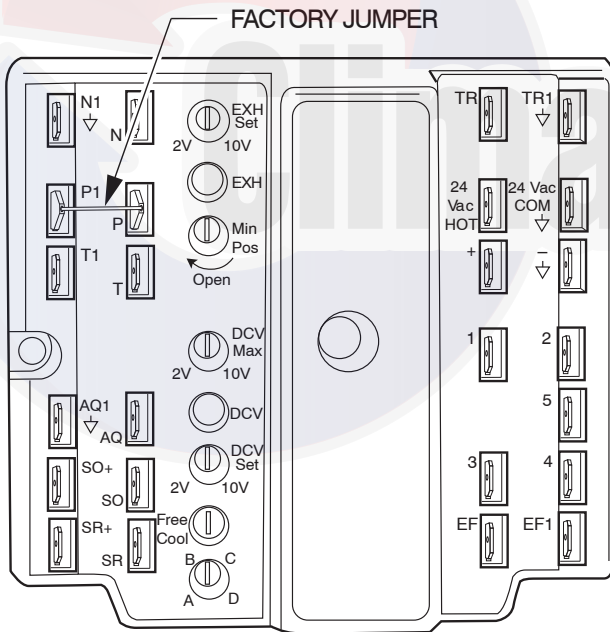

Fig. 92 - EconoMi\$er IV Control
3. Ensure that the factory-installed jumper is in place across terminals P and P1. If remote damper positioning is being used, make sure that the terminals are wired according to Fig. 92 and that the minimum position potentiometer is turned fully clockwise.
To control the minimum damper position remotely, remove the factory-installed jumper on the P and P1 terminals on the EconoMi\$er IV controller. Wire the field-supplied potentiometer to the P and P1 terminals on the EconoMi\$er IV controller. See Fig. 92.